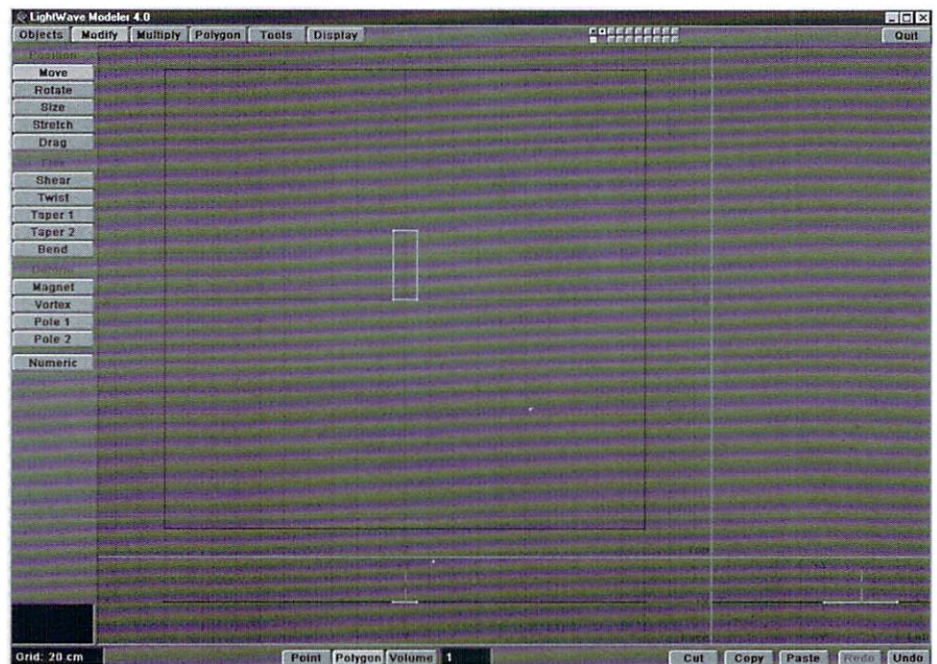

Figure 1
- Press (ALT-1) to show the first Layer in the background, hit (a) to fit all views to the objects. If you did everything correctly, you should see something like Figure 1.